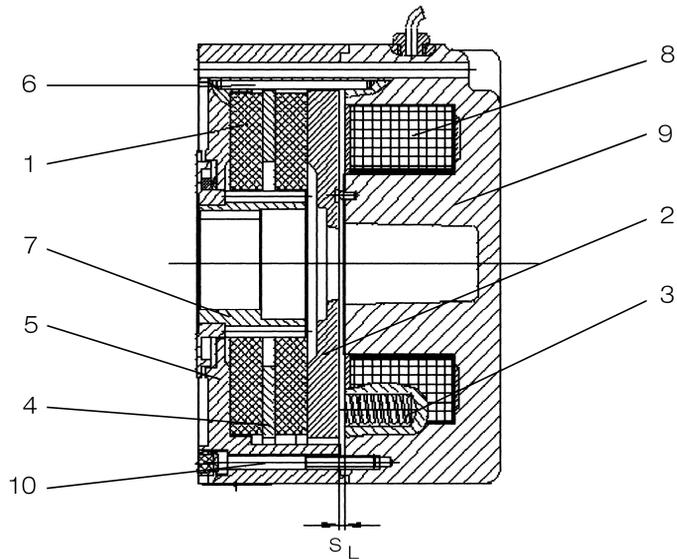

Fig. 1: Z.. series double-disc spring-loaded brake
- 3 Function** The functional principal is explained in Fig. 1, which shows the double-disc spring-loaded brake (Z.. series).
- 3.1 Braking** The brake discs (1) are pressed axially by the springs (3) against the backing plate (4) and the centring flange (5) via the thrust plate (2). The parallel pin (6) prevents the thrust plate and the backing plate from moving radially. The braking torque is transferred to the rotor via spline teeth between the brake discs and the carrier (7), which is securely mounted on the shaft. The braking torque can be adjusted in steps by the number of springs (see section 8).
Starting from the basic version shown in Fig. 1, all the brakes can be additionally equipped with the following: